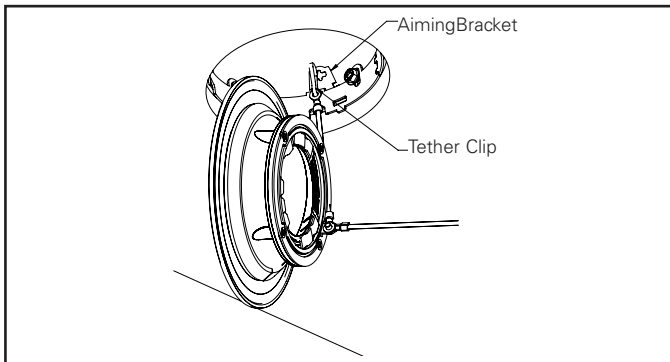

Figure 19.
5. Attach trim tether clip to aiming bracket (Figure 19).